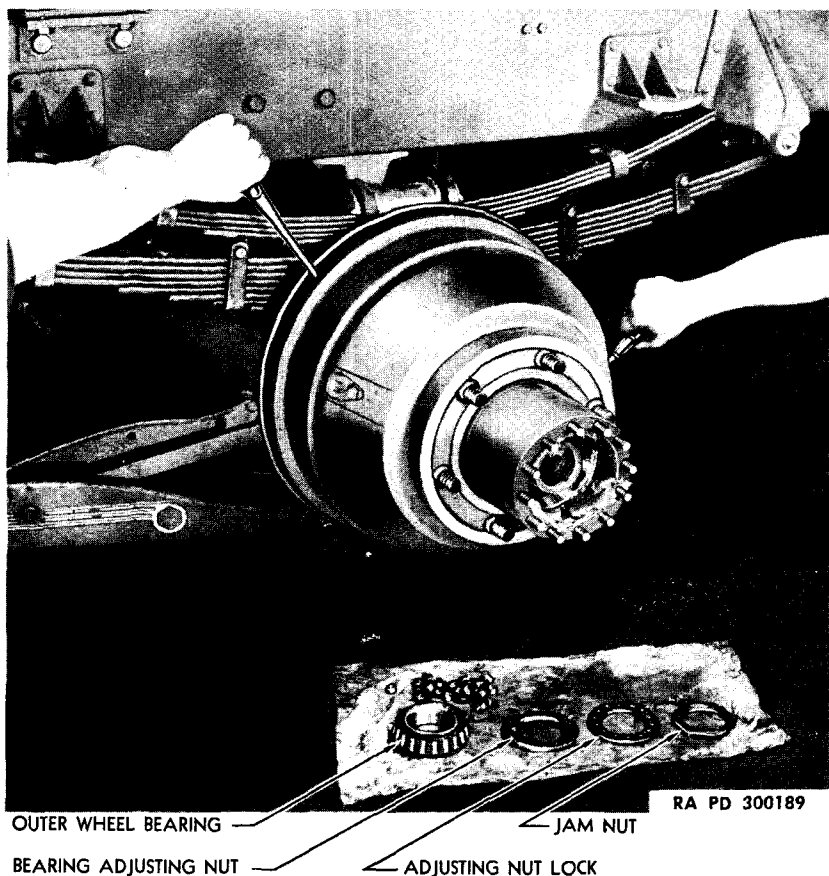

Figure 100—Removing Rear Hub and Drum Assembly
- c. Remove Hub and Drum. Wipe grease from axle housing end with a clean rag. Remove jam nut, lock ring, and bearing adjusting nut (fig. 100). Remove hub and drum assembly, pulling outer bearing at the same time. If necessary, tap outer end of axle housing to loosen